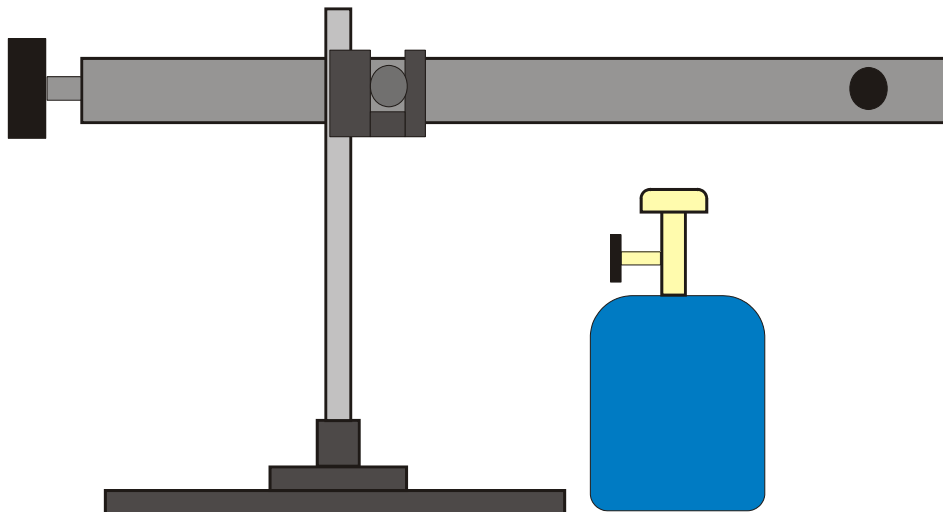

Fig. 1 Bar breaker experiment set-up
- Set up the experiment as in Fig.1. Check that the bolt is not aligned towards any viewing persons.